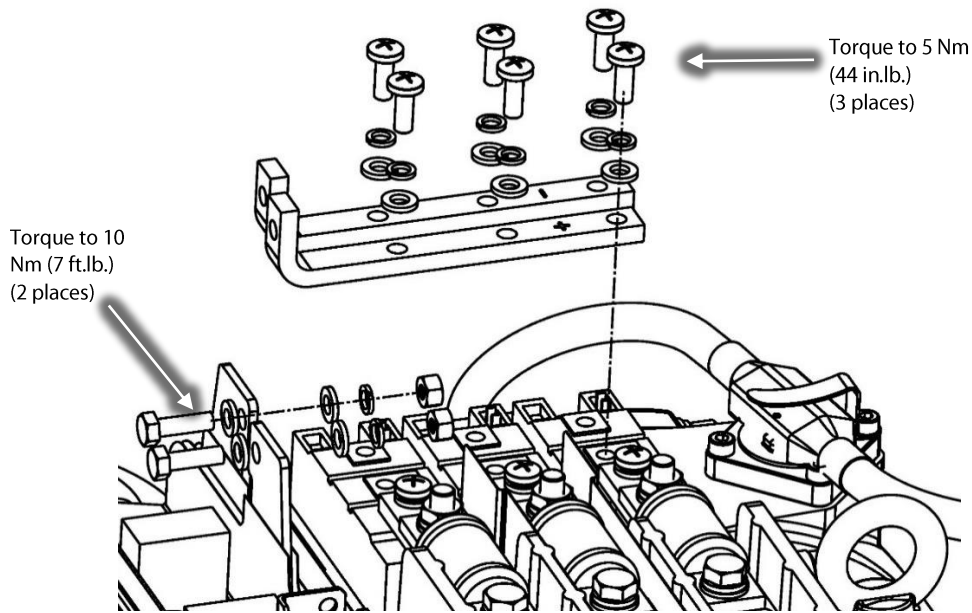

Figure 7 – DC Bus Bar Removal
15. Remove the DC Bus Bars from the SCRs. Refer to Figure 7 (DC Bus Bar Removal).
18. Reconnect the DC Bus Bars to the SCRs and torque to specification. Refer to Figure 7 (DC Bus Bar Removal).
19. Reconnect the DC Bus Bars the DC Bus and torque to specification. Refer to Figure 7 (DC Bus Bar Removal).